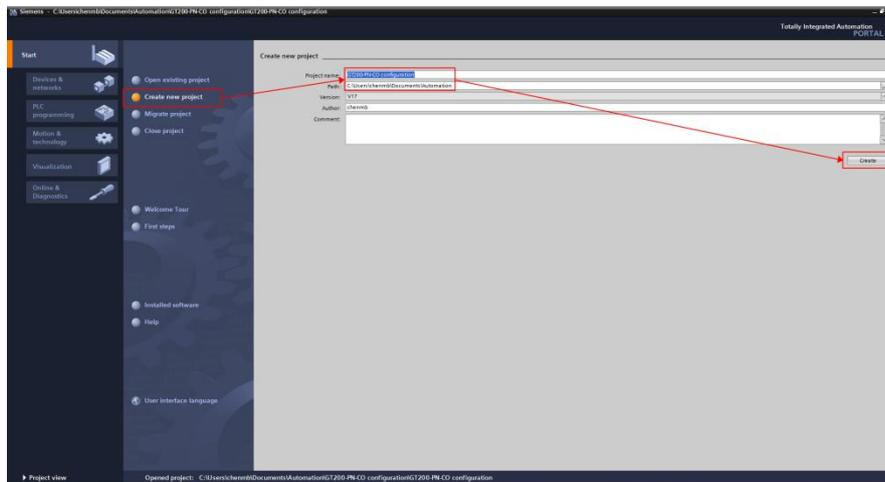

Figure 1: Create New Project
1.1 Double-click the icon to open the TIA Portal V17 software. After entering the software, click "Create New Project" on the left. After setting the project name, save path and other information, click "Create", as shown in Figure 1.